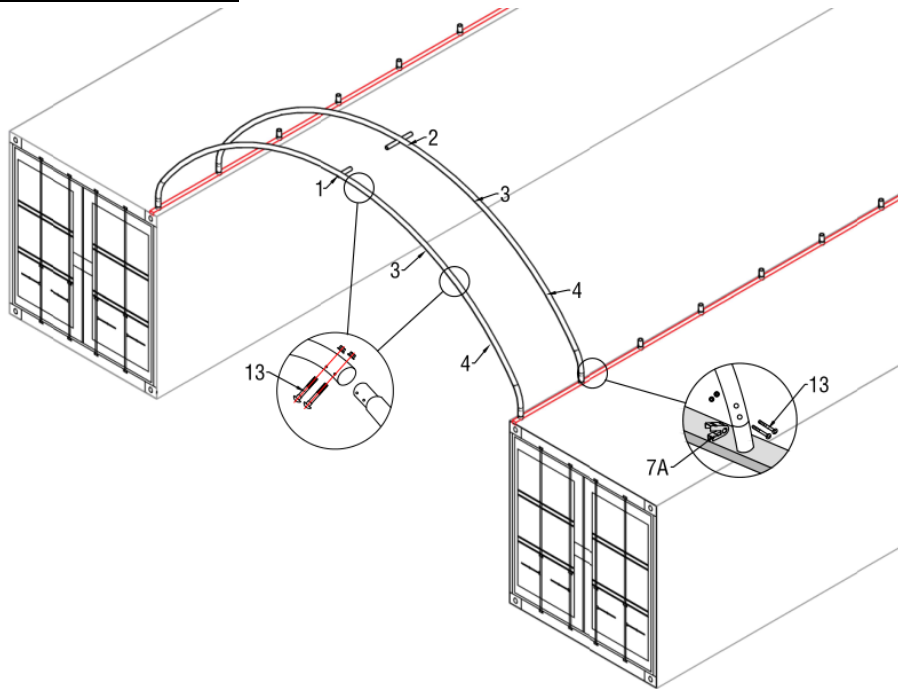

Figure 2
1. As Figure 2 shown find Three-way fitting (part code 1), Top bent tube (part code 3) and Sidewall bent tubes (part code 4). To connect them by Screw M8x70mm (part code 13). Which makes one group of arch. Please NOTE the direction of the screw.